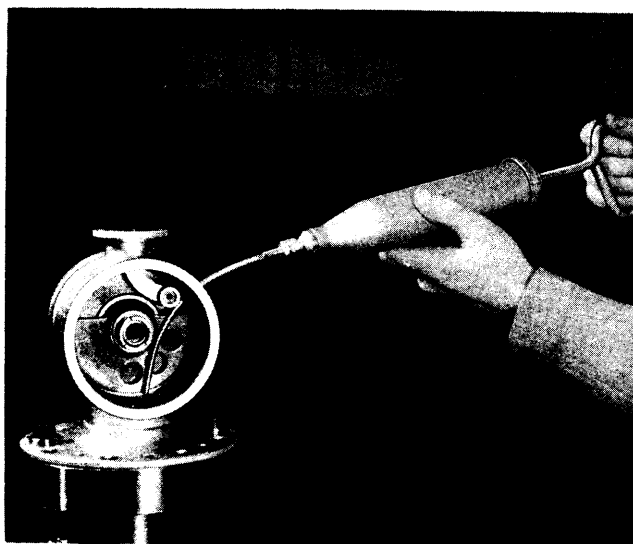

Figure 8. Method of Bottoming Grease Gun Tube Extension When Checking Lubricant
b. 25-HOUR LUBRICANT CHECK. (See figure 8.)
(1) If the RPM of the propeller during flight varies excessively with increasing or decreasing air speed, or if the performance of the propeller should become otherwise irregular or erratic, remove it and send it to the repair station for overhaul.
(2) Should the propeller become immersed in salt water, send it to the overhaul station at once to be disassembled and cleaned in order to prevent corrosion.
(3) If lubricant leaks develop, the propeller must be sent for overhaul inspection and replacement of seals.
a. 25 HOUR. (See figure 8.)
(1) To check lubricant, place the propeller in a horizontal position with the 1/8" filler plug up. Remove filler plug, insert extension of grease gun to bottom of hub barrel, fill hub until lubricant comes out filler hole around extension tube of grease gun. The clearance between filler tube and hole will allow displaced air to escape thereby insuring a completely filled hub with lubricant. Replace filler plug.
(2) Notice: Always use Aeromatic propeller lubricant 7-F. In an emergency, if the average temperature is above freezing, use SAE No. 30 oil; or if below freezing, use SAE No. 10. If SAE No. 10 or 30 oil is used in an emergency, it should be replaced with Aeromatic propeller lubricant 7-F as soon as possible as oil tends to soften the seals.
(3) The hub must be completely filled with lubricant whenever the propeller is put away for storage.